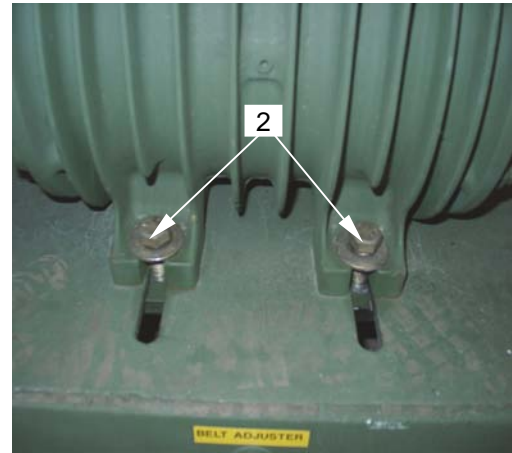

Figure 8. Removing Vacuum Pump Mounting Bolts
4. Loosen but do not remove the 1-inch vacuum pump inside mounting bolts (**figure 8, item 1**).
5. Loosen but do not remove the 1-inch vacuum pump outside mounting bolts (**figure 8, item 2**).